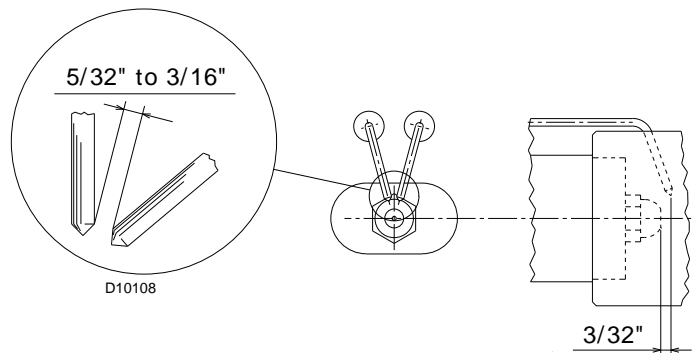

Fig. 18
- Make sure that the electrodes are positioned as shown in Fig. 18.
Make sure that the electrodes are positioned as shown in Fig. 18.